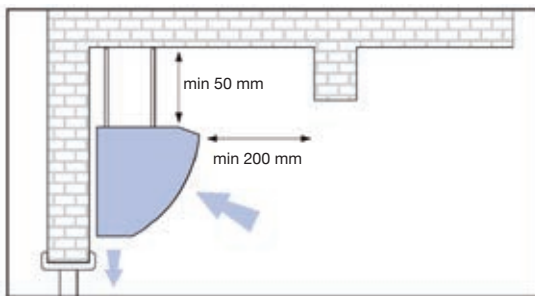

Figure 1
- The air curtain shall be assembled as close as possible to the upper edge of the doorway in the case of horizontal curtains and in the case of vertically assembled ones, as close as possible to the side edge of the doorway (see figure 1)